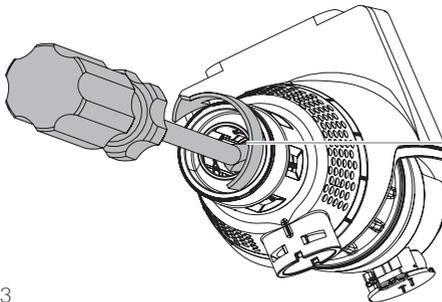

Fig. 8.3
- / Fig. 8.3 / 8.4: Disassembling the drain funnel